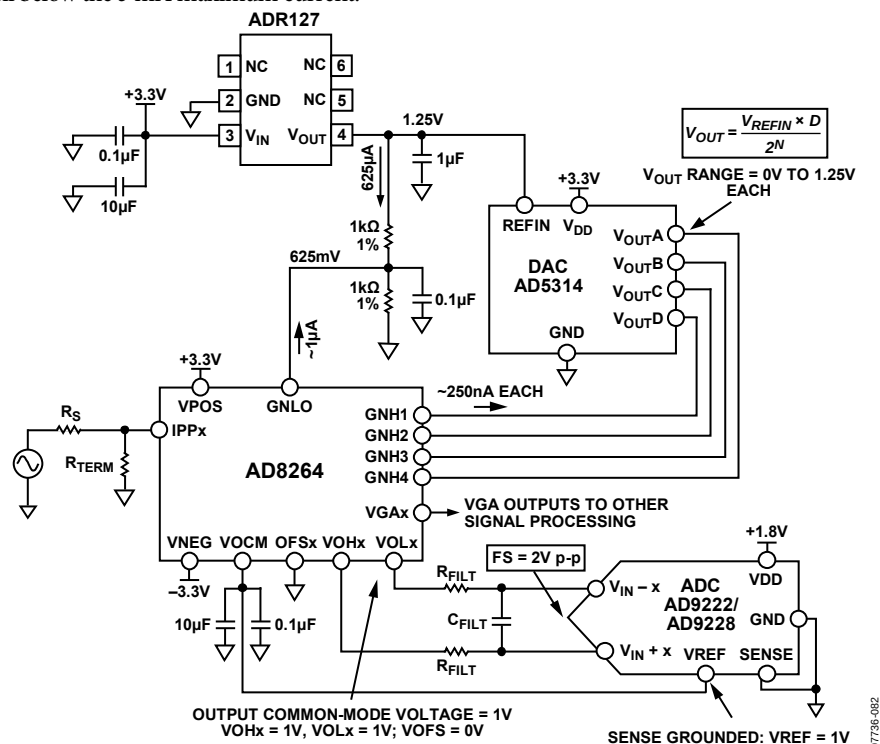
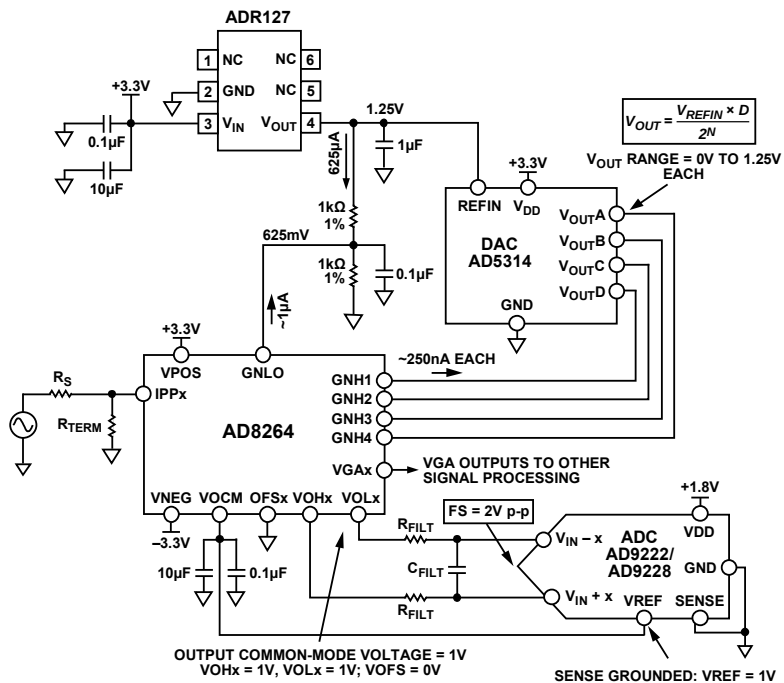

Figure 112. Application Concept of the AD8264 with the AD5314 10-Bit DAC and the AD9222/AD9228 12-Bit ADC
Figure 113. Concept Application of AD8264 with 40-Channel AD5381 12-Bit, 3 V DAC and AD9222/AD9228 12-Bit ADC
The dc connected concept example in Figure 113 is an application with the 40-channel AD5381, 3 V, 12-bit DAC. The main difference between this example and Figure 112 is that, for the same ADR127 1.25 V reference, the full-scale output of the DAC is from 0 V to $2 \times V_{REFIN} = 2.5$ V. Two options for gain control include the following:
- Use the same circuit as in Figure 112 but use only half the DAC output voltage from 0 V to 1.25 V. This is the simplest solution, requiring the fewest extra components. Note that the overall gain resolution increases by one bit to 11 bits over the 10-bit AD5314.
- Ground GNLO and scale the DAC output so that the GNHx inputs vary from -0.652 V to $+0.625$ V. Figure 113 shows a possible circuit implementation using a divider between the DAC output and a -1.25 V reference.
Figure 113 shows how the AD8264 is connected in a PET application. The PMT generates a negative-going current pulse that results in a voltage pulse at the preamplifier input and a differential output pulse on VOLx and VOHx.
A convenient method of verifying and customizing the signal chains shown in Figure 112 and Figure 113 is by ordering the corresponding evaluation boards available on www.analog.com. The AD8264-EVALZ is a platform through which the user can quickly become familiar with the features and performance capabilities of the AD8264. See the Evaluation Board section for more information.